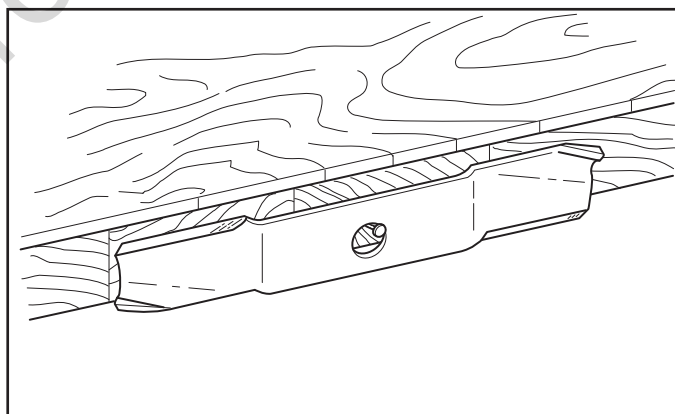

Figure 30
5. Balance the blade as shown in Figure 30. Place the center hole of the blade on a nail lubricated with a drop of oil. A balanced blade will remain level.